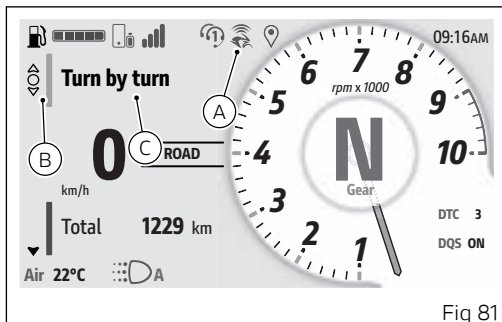

Fig 81
- Select the Interactive Menu (B, Fig 81) by pressing and holding button (1) down for a long time.
- Use buttons (1) and (2) to select item "Turn by turn" (C, Fig 81) and press the ENTER button (3).